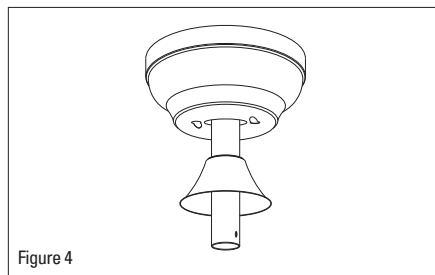

Figure 4
4. Remove and save the clevis pin and hairpin of the downrod. Put the downrod through the canopy and coupling cover. (Figure 4)